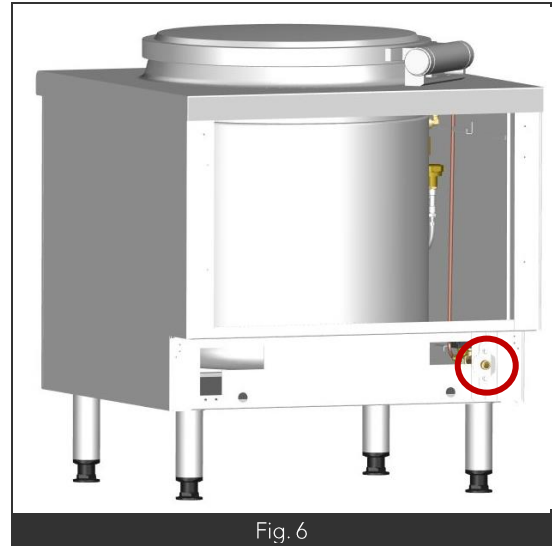

Fig. 6
- Fig. 6 Item 1 Water jacket connection